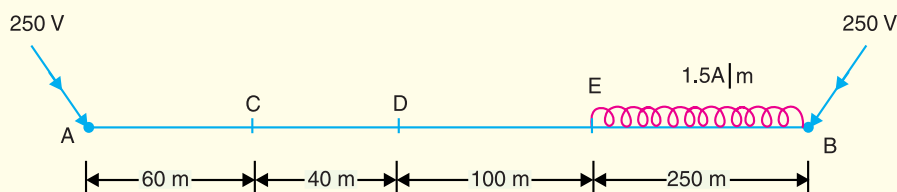

Fig. 13.35
- A d.c. 2-wire distributor AB is 450 m long and is fed at both ends at 250 V. The distributor is loaded as shown in Fig. 13.35. The resistance of each conductor is 0.05Ω per km. Find the point of minimum potential and its potential.